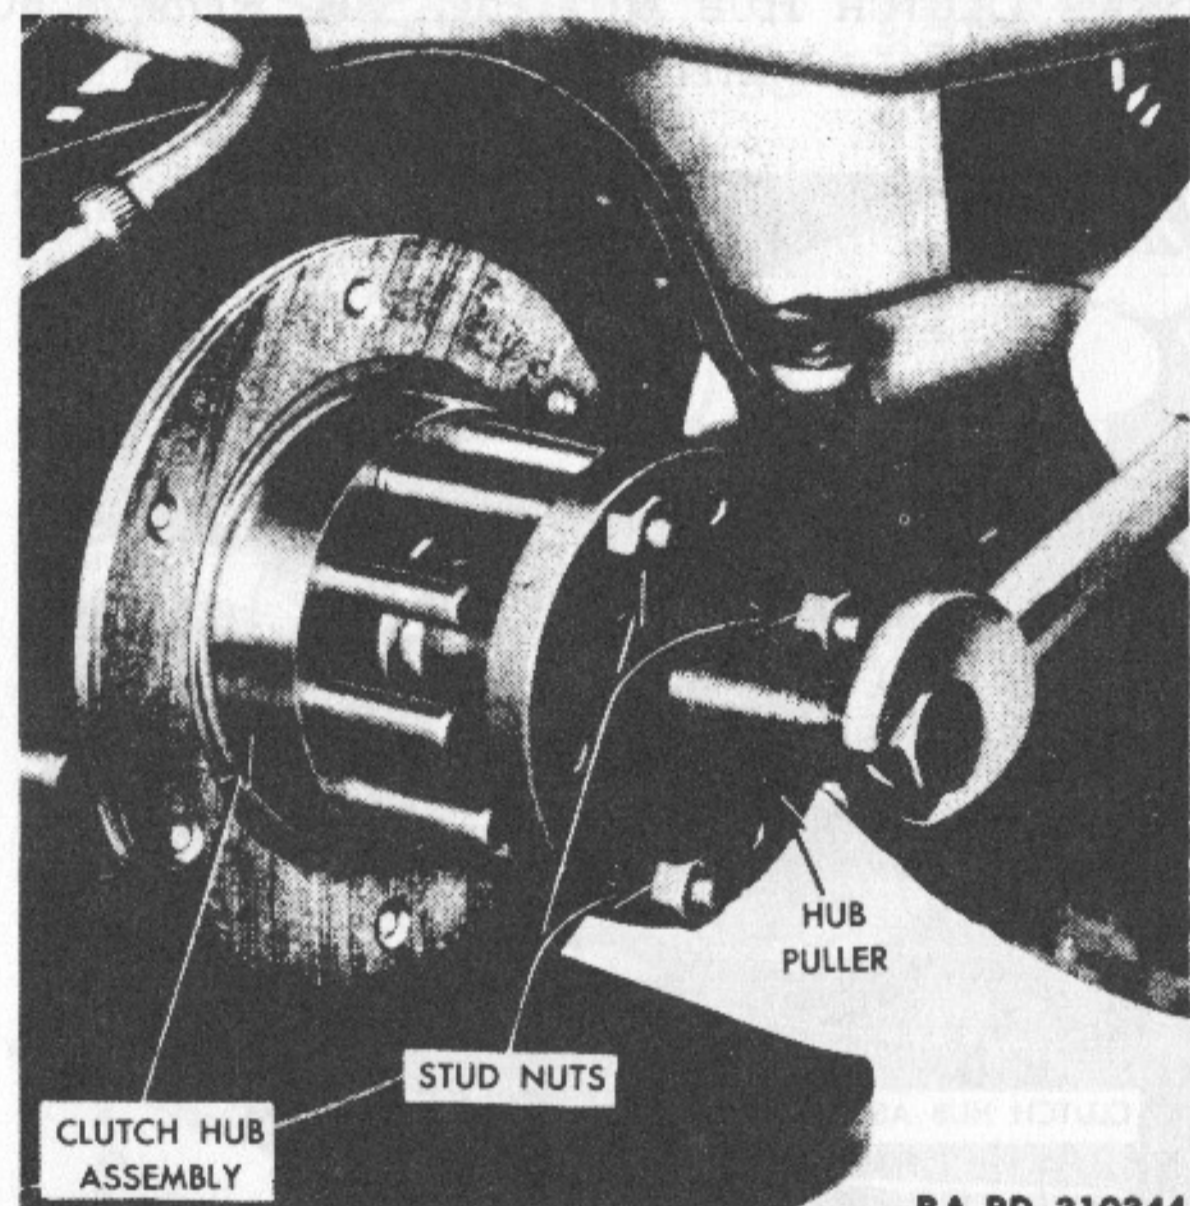

Figure 91—Pulling Clutch Hub with Puller (41-P-2905-90)
(2) **REMOVE CLUTCH HUB FROM TRANSMISSION GEAR** (fig. 91). Use puller (41-P-2905-90) and pull clutch hub from splined transmission gear.